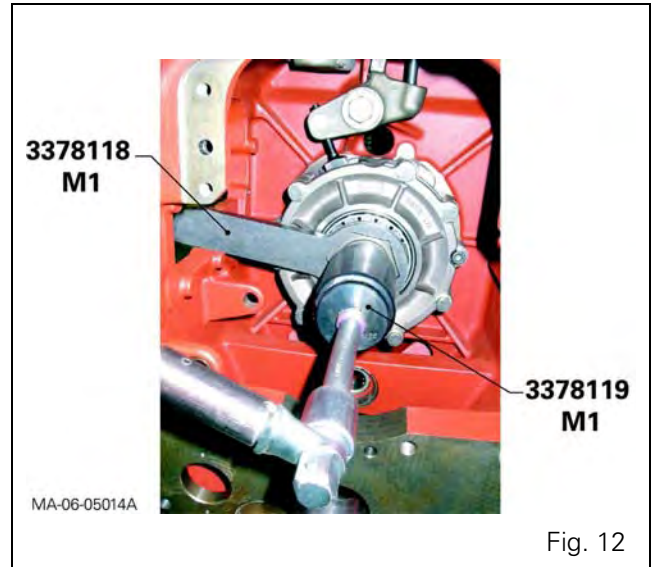

Fig. 12
43. Degrease the threads of the new nut (18) and the pinion.
Lock the nut with wrench ref. 3378118 M1 (Fig. 12).
Using socket ref. 3378119 M1, turn the pinion anti-clockwise to a tightening torque of 200-250 Nm (Fig. 12).